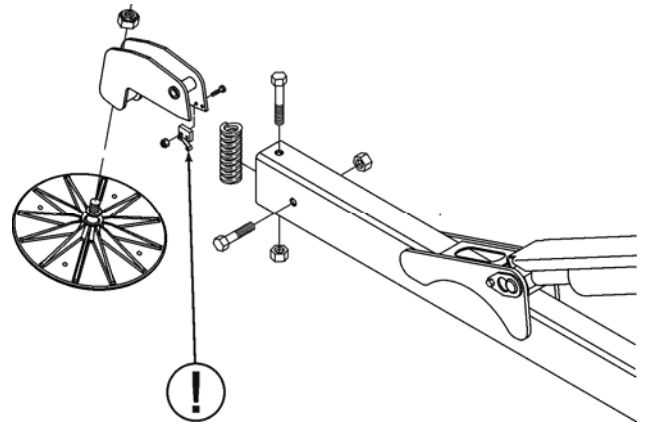

Figure 2-1. Outrigger Position Switches
- ❑ Repair or replace as needed. Refer to Figure 2-1.